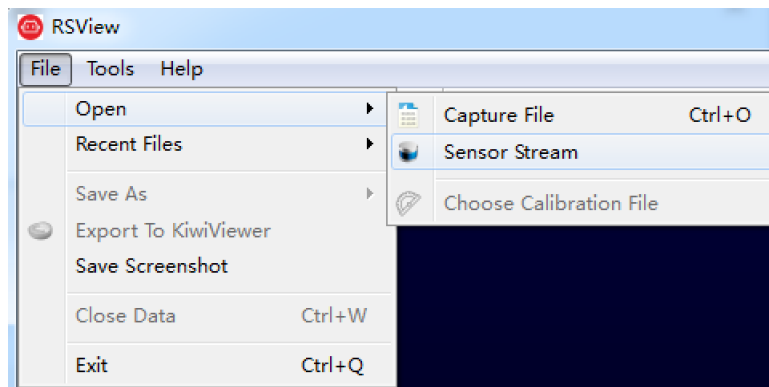

Fig A-1: Open the Sensor Stream in RSView.
3. Click on the File -> Open -> Sensor Stream (Fig A-1).